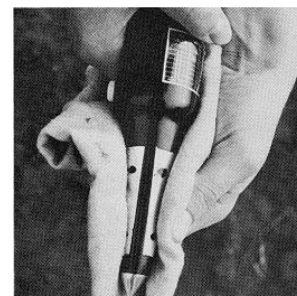

Fig. 2
2. The electrode is very vulnerable and should carefully cleaned with water and dried with a clean cloth before and after use (fig.2). This is very important since otherwise the reading is not correct. After cleaning, the electrodes should not get in contact with anything, not even with your hands since these always give off some transpiration, however slight, and this would adversely affect the readings.
4. To measure the moisture content in the soil, press the white button; the moisture content can be read off immediately. After use, clean the electrodes thoroughly with water and wipe off with a dry cloth (fig.2). Normal soil used for cultivation will seldom have a moisture content below 30% as is the case e.g. with dry sand.